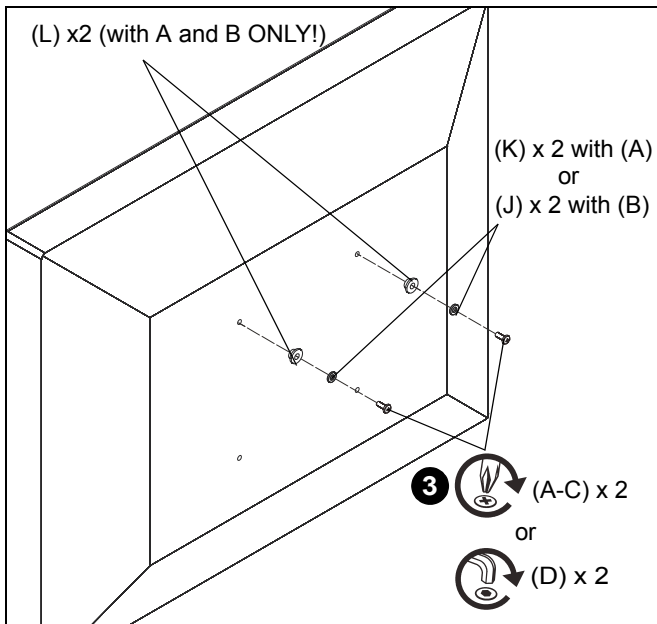

Figure 16
3. Install two selected screws (A-D) into upper two holes on back of display. (See Figure 16)
IMPORTANT ! : If using M4 or M5 screws (A or B), washer hardware (J, K and L) must be used to ensure tight fit into the faceplate holes! For M4 screws (A), use M4 washer (K) and shoulder washer (L). For M5 screws (B), use M5 washer (J) and shoulder washer (L). (See Figure 16)